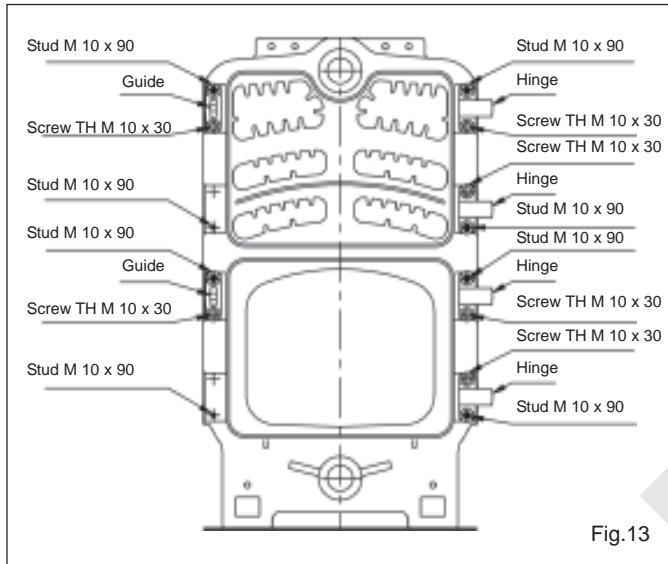

Fig.13
Door hinges and door guides (9) (fig. 13 and 14)
- Mount the hinges (9) (1 screw HM 10 x 30 + 1 nut HM 10 + 2 washers L 10 per hinge) and the door guides (10) (1 screw HM 10 x 30 + 1 nut HM 10 + 2 washers L 10 per guide).